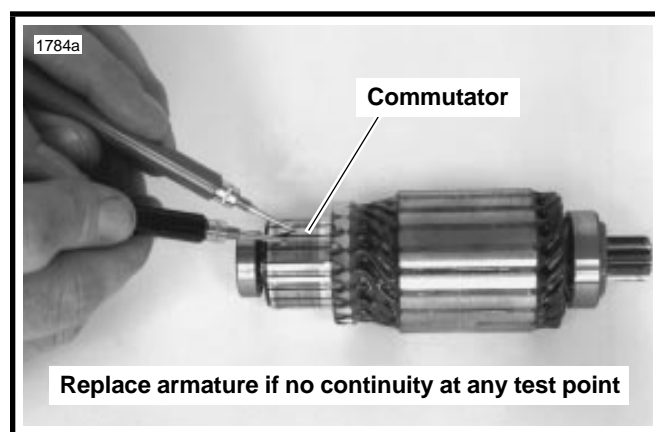

Figure 5-19. Open Armature Test
11. See Figure 5-19. Check for OPEN ARMATURE with an ohmmeter or continuity tester. Check for continuity between all commutator segments. There should be continuity (0 ohms) at all test points. No continuity at any test point indicates armature is open and must be replaced.